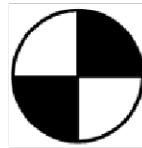

Figure 2-1 – Center of Gravity Symbol
2. All aircraft must have the fuselage clearly marked on both sides with a classic CG symbol (Figure 2.1) that is a minimum of 0.5 inches in diameter centered at the Empty CG position +/- 0.25 inches, per the submitted 2D drawings. (Wing type aircraft may place the two CG markings on the bottom of the wing.)